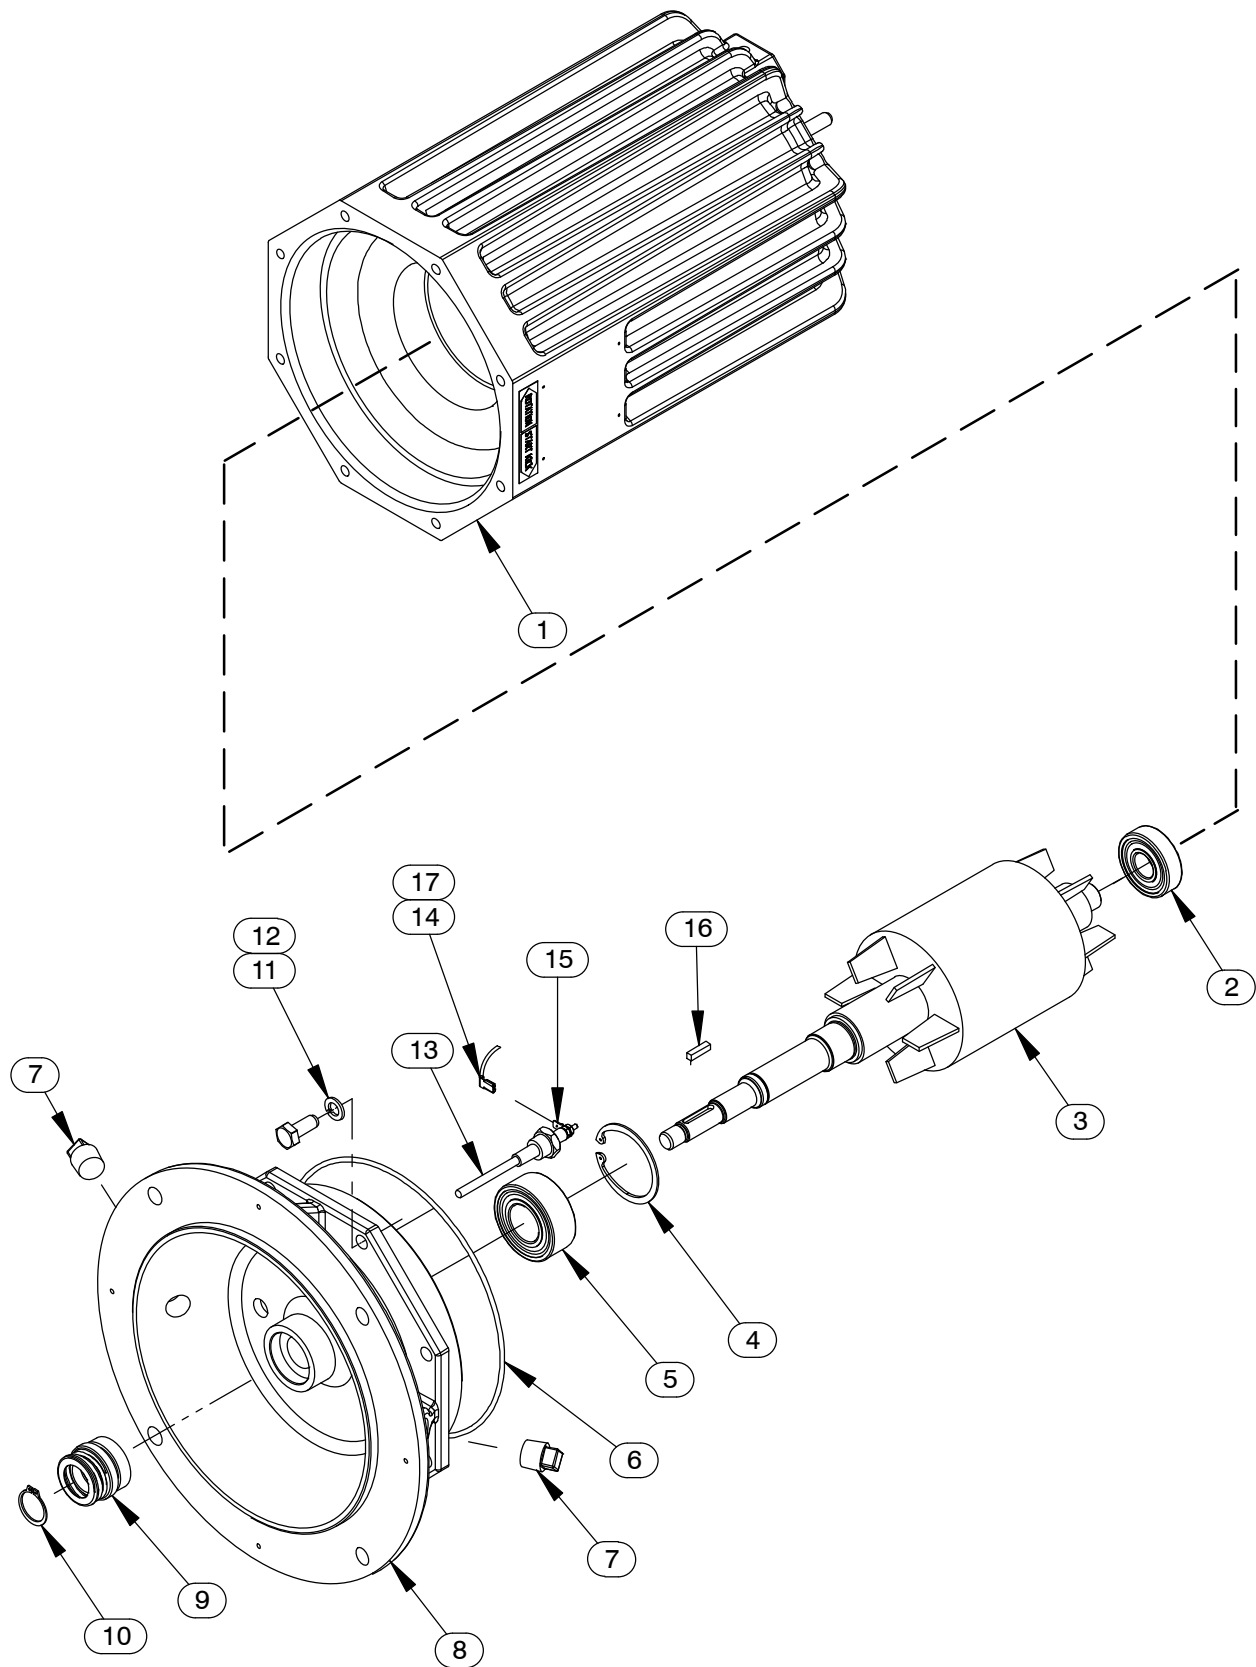

Figure E-2. 47111-803, -808, -809 and -857 Motor Assemblies
(Figure E-2)
To remove the impeller, use two thin-bladed screwdrivers positioned 180° apart to pry on the back of the impeller and “walk” the impeller off the shaft. Use increasingly larger screwdrivers (or wedges) as necessary. After the impeller comes free of the shaft, retain the impeller key (16, Figure E-2).
An alternate method of removing the stationary element is to remove the screws (16) securing the seal plate (14) to the motor assembly (7). Pry the assembled seal plate and stationary element off the shoulder of the intermediate (8, Figure E-2). Remove the O-ring (6) and press the stationary element and seat out of the seal plate from the back side.
Upper Seal Removal (Figures E-2 and E-3)
With the pump inverted, stuff a clean tissue into the stationary seal seat bore of the intermediate (8, Figure E-2) or wrap a small rag around the shaft to prevent foreign material from entering the motor cavity.